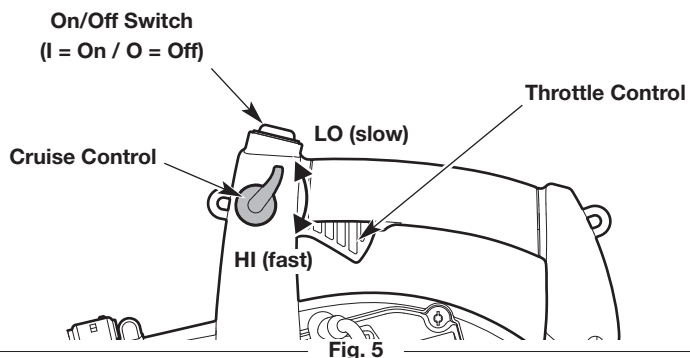

Fig. 5
**NOTE:** There is no need to turn the unit on. The On/Off switch is in the **On (I)** position at all times (Fig. 5).
2. Move the cruise control to the **LO (slow)** position (Fig. 5).
**NOTE:** Keep the cruise control in the **LO (slow)** position and **DO NOT** squeeze the throttle control (Fig. 5) until step 7.
7. Squeeze and hold the throttle control or move the cruise control to the **HI (fast)** position (Fig. 5).
2. Press and hold the On/Off switch in the **Off (O)** position until the engine comes to a complete stop (Fig. 5).
- Use the cruise control to make continuous operation easier (Fig. 5).